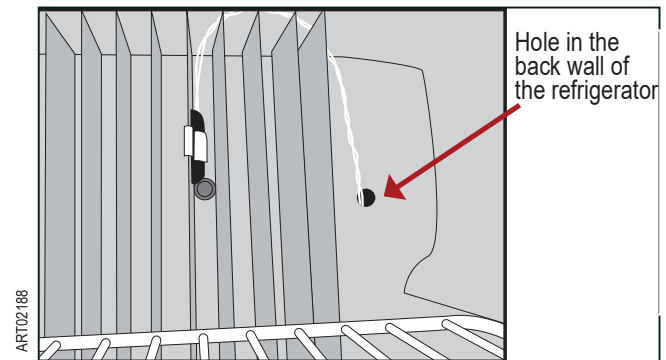

Fig. 5 Insert thermistor wires through the refrigerator back wall
- Insert the terminal end of thermistor wires thru the hole in the back wall of the refrigerator, being very careful not to damage/bend the terminals. Refer to Fig. 5.